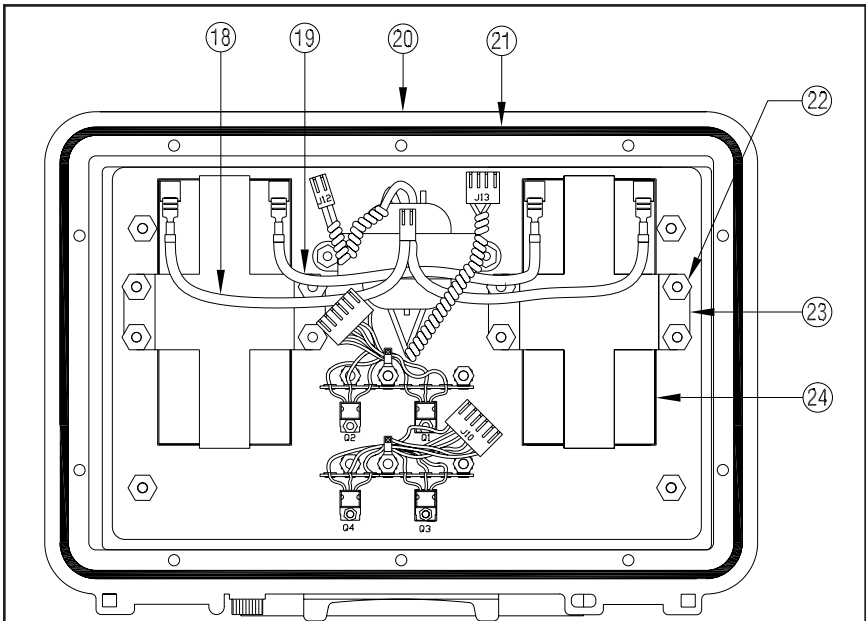

Figure 2. Battery Compartment Layout
4. Remove the battery jumper (Fig. 2, #19) and the interconnection cable (#18) from the batteries.
5. Remove all the hex nuts (Fig. 2, #22) from the battery brackets.
6. Remove the battery bracket (Fig. 2, #23) from the batteries.
7. Remove the batteries (Fig. 2, #24).
10. Connect one end of the battery jumper (Fig. 2, #19) to a terminal marked “BLACK” on one of the new batteries.
12. Connect one end of the interconnection cable (Fig. 2, #18) to the remaining black and red terminals.
14. Check the o-ring (Fig. 2, #21) on the inside of the housing for debris or damage. Replace it if necessary.
4. Remove any debris from the o-ring located on the inside of the cover (Fig. 2, #21).